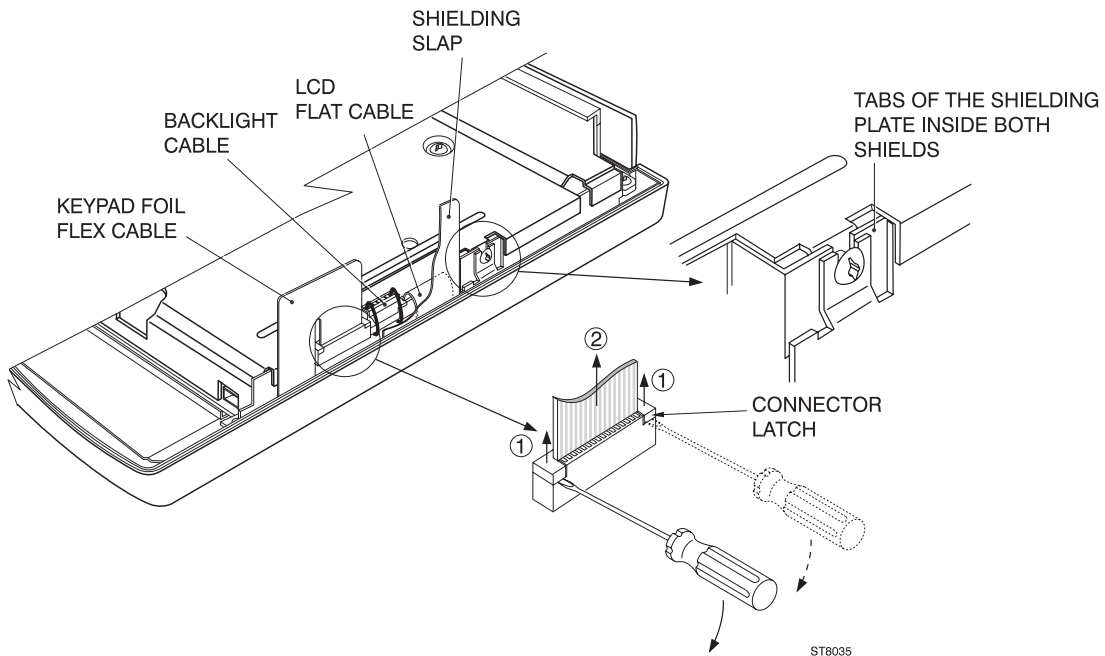

Figure 5-2. Flex Cable Connectors
2. Disconnect the LCD flex cable, and the keypad foil flat cable, see Figure 5-2. Unlock the cables by lifting the connector latch. The latch remains attached to the connector body. The keypad foil is provided with a shielding flap that covers the LCD flat cable. The end of the flap is put under the main PCA unit shielding plate, and can be easily pulled out.
2. Do not forget to install the power connector insulator (item 3) and the LED holder (item 6).
3. Notice the correct position of the shielding box, main PCA (notice the shielding plates on the PCA), and shielding plate, as shown in Figure 5-2. The tabs of the shielding plate must be inside both shields.